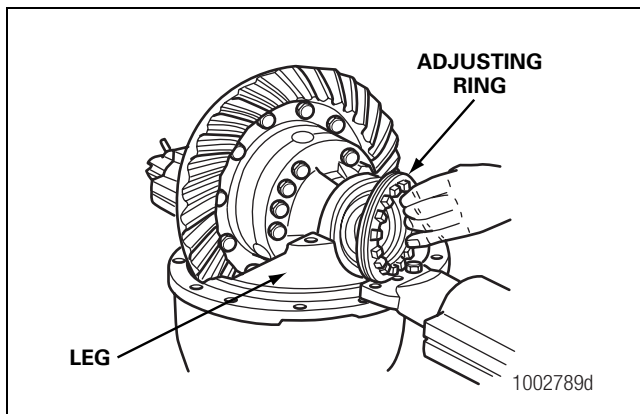

Figure 5.48
6. Install both of the bearing adjusting rings into position between the carrier legs. Turn each adjusting ring hand-tight against the bearing cup. Figure 5.48.